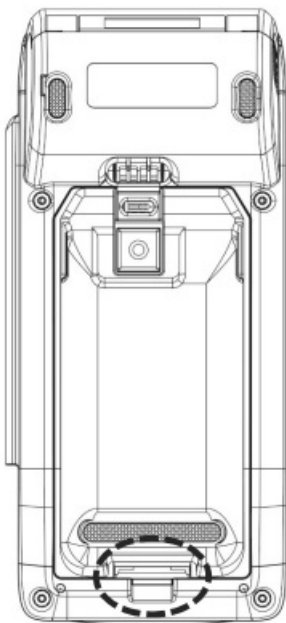

Figure 8
STEP 1: Push the battery latch to pull the battery from AT-150 as Figure 8.